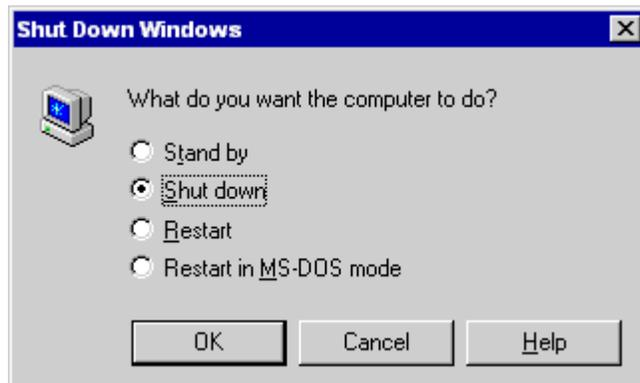

Figure 10 Shut Down Windows
- Click **Start** and then **Shut Down**. Windows will display a box similar to that shown in Figure 10.